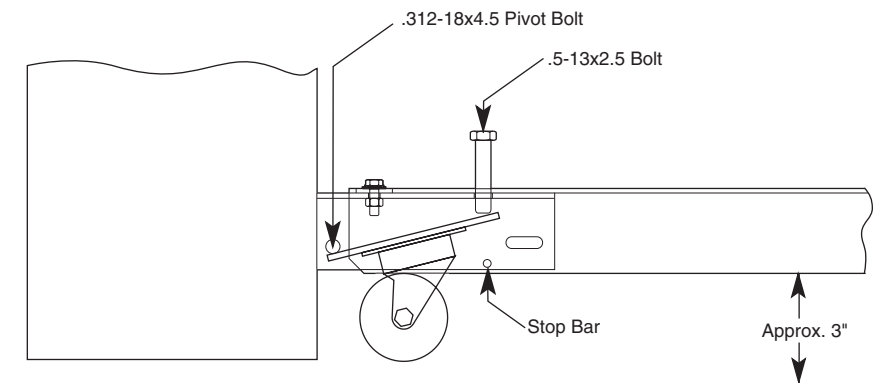

Figure 2.4 Caster Assembly
- C. Refer to Figure 2.4. Slide one caster under each end of the Tie-Bar so that the caster pivot hole is toward the isolator and the end of the caster mounting plate is above the stop bar.